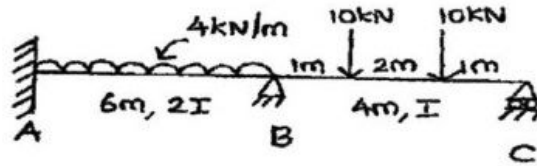

Fig. Q12 (a)
12. (a) Analyse the continuous beam ABC shown in Fig. Q12(a) by slope deflection method, if the support B sinks by 15 mm. Draw the bending moment diagram. Assume $E = 200 \times 10^6 \text{ kN/m}^2$ and $I = 70 \times 10^6 \text{ mm}^4$.